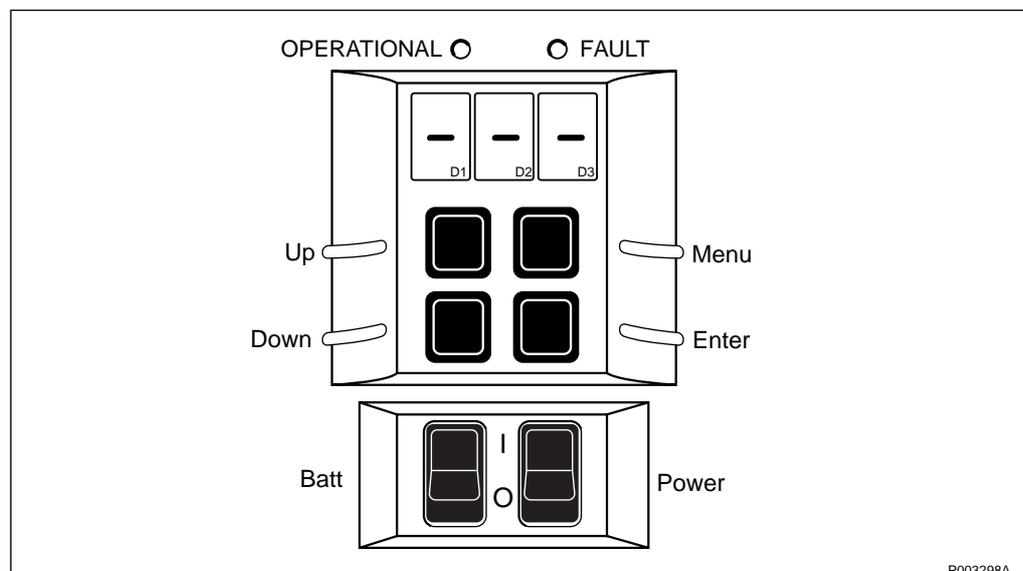

Figure 391 Display view if no faults are detected
- If there are no faults, this is indicated on the alarm display as shown in Figure 391 on page 419.